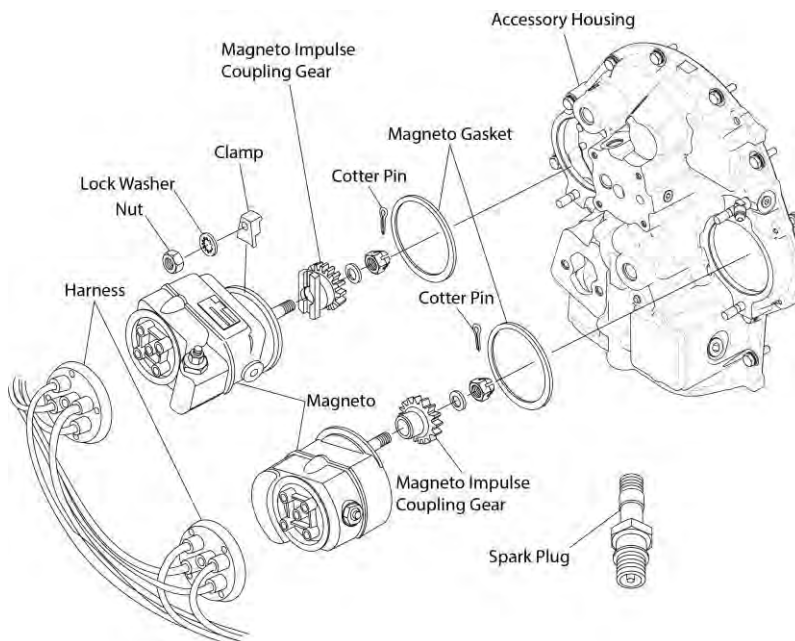

Figure 1
- (2) Install the magneto impulse coupling gear (Figure 1) on the magneto.
- (3) Remove excess anti-seize compound from the magneto driveshaft.
- (4) Torque the gear nut to 120 to 360 in.-lb. (14 to 41 Nm).
- (10) Apply Lubriko grease to the mating flange and install a new gasket on the mating flange of the magneto.
- (11) Remove the timing pin and install the magneto on the engine with the clamp, nuts, and new lock washers (Figure 1).
- (12) Torque the two nuts on the magneto clamps to 48 in.-lb. (5 Nm) in increments, alternating between the two nuts until both nuts are torqued to 15 to 18 ft.-lb. (20 to 24 Nm).
- (13) Connect the harness to the magneto.
- (14) Complete the "Magneto-to-Engine Timing" procedure in Chapter 74-30 in the **IO-360-N1A Engine Service Manual**.